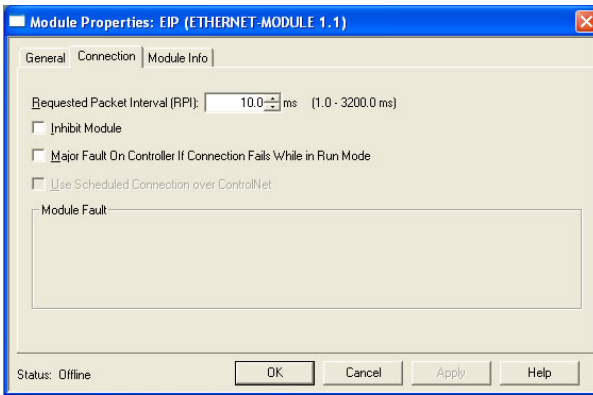

Figure 86: Interface Card Module Properties Connection Tab
- 5) You should now see the new module (named “ETHERNET-MODULE Fuji_Inverter”) in the 1756-ENBT/A branch under the I/O Configuration in the controller organizer view. Right click on this new module, choose “Properties”, and select the Connection tab. Refer to Figure 86.